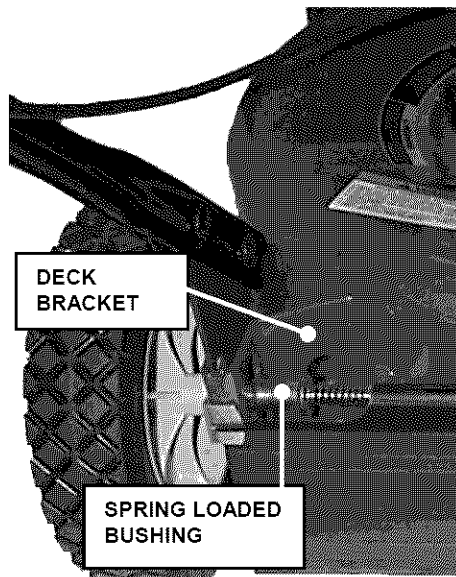

FIGURE 2.6
**1. FRONT WHEELS:** Reposition the front axle by raising the front wheels off the ground, then pull in the spring loaded bushings until they clear the brackets. Move bushings to the desired height of cut position and release the bushings. See Figure 2.6.
**2. REAR WHEELS:** Reposition the rear axle by raising the rear wheels off the ground, then pull in the spring loaded bushings until they clear the brackets. Move bushings to the desired height of cut position and release the bushings. Position the rear bushings in to the same notches corresponding with notches for the front wheels to maintain the level of the deck. See Figure 2.6.